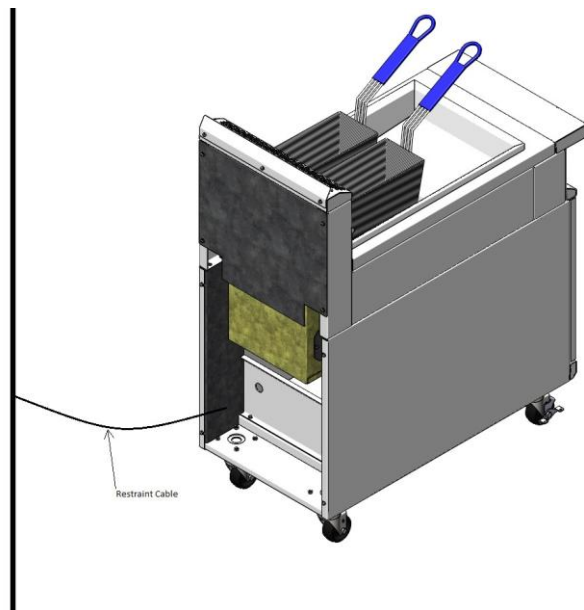

Fig. 1
- 2) Adequate means must be provided to limit the movement of the appliance without depending on the connector and the quick-disconnect device or its associated piping to limit the appliance movement. (Fig. 1)